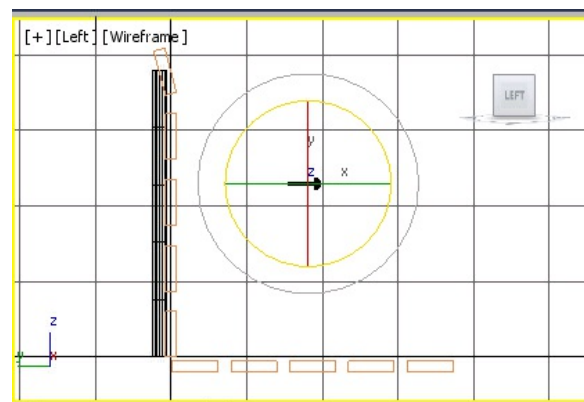

Figure 2-79 Rotating rivet001 in the Left viewport
2. In the **Offset:Screen** area of the **Rotate Transform Type-In** dialog box, enter **-90** in the **Z** spinner and press ENTER; *rivet001* gets rotated, as shown in Figure 2-79. Now, close the **Rotate Transform Type-In** dialog box.